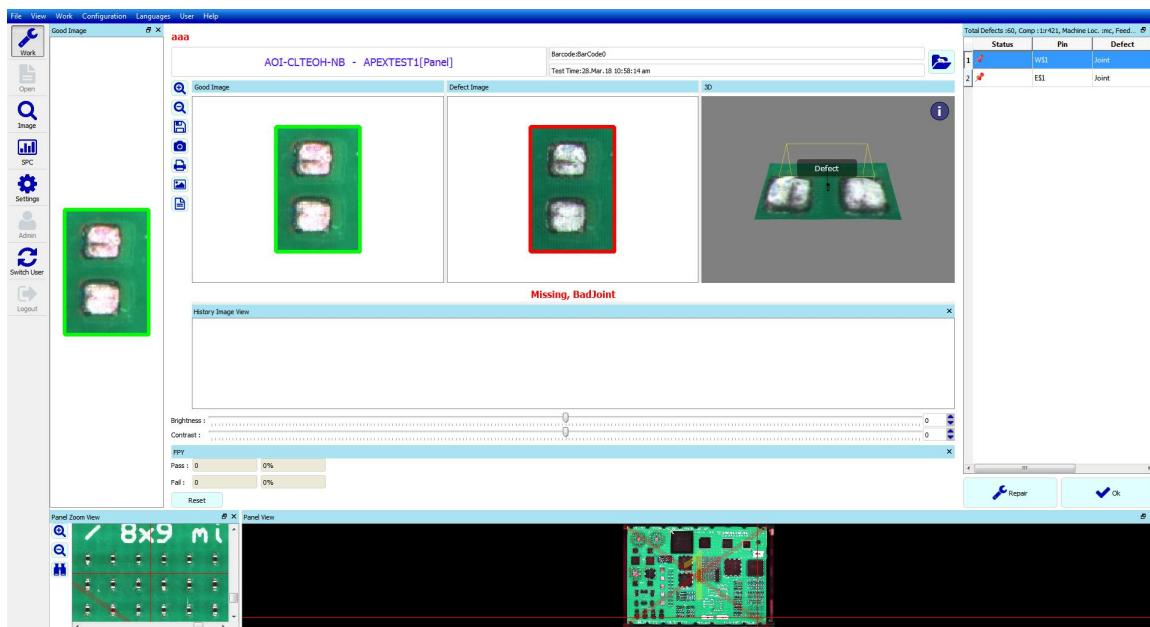

Figure 42: PLR style 1
- Style 1: “Enter” to PLR folder automatically during buy off process. Figure 42 is the sample screen shot for style 1.